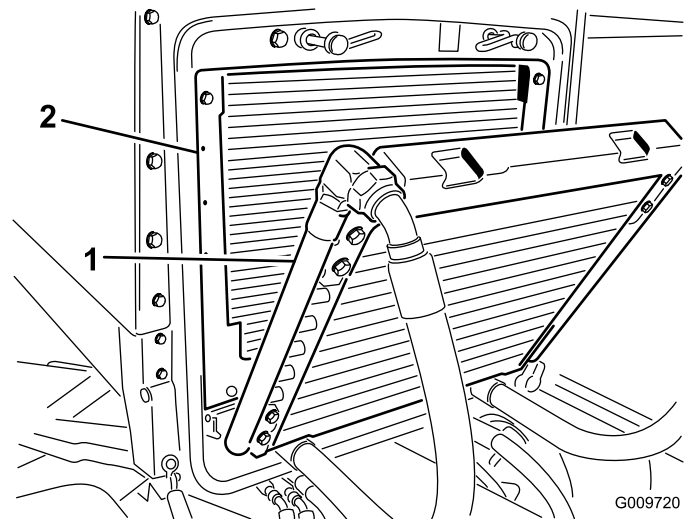

Figure 58
4. Clean both sides of the oil cooler and radiator area (Figure 58) thoroughly with compressed air.